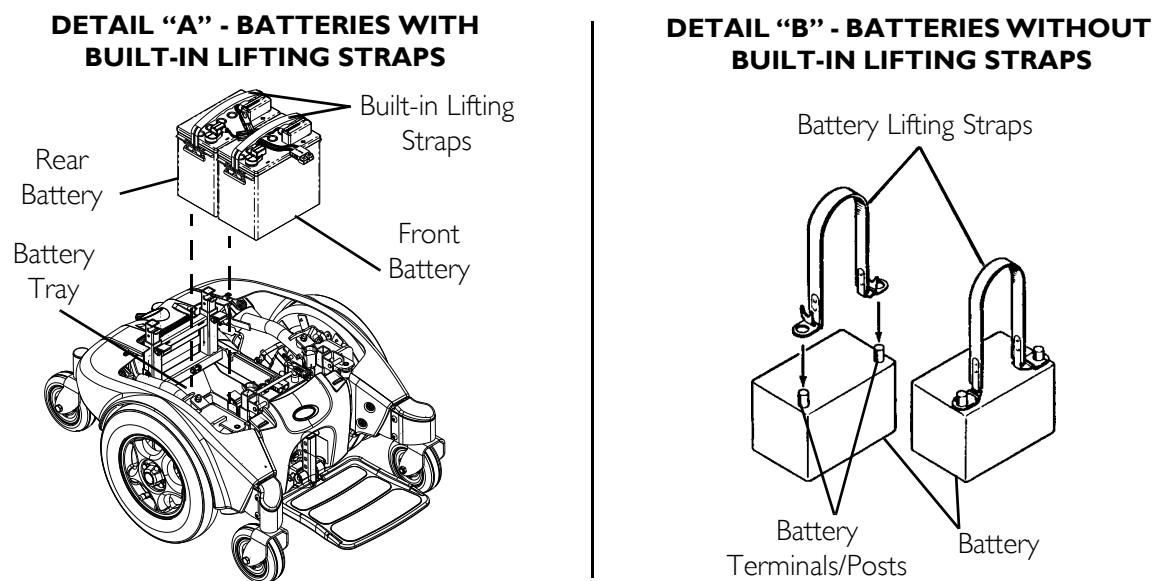
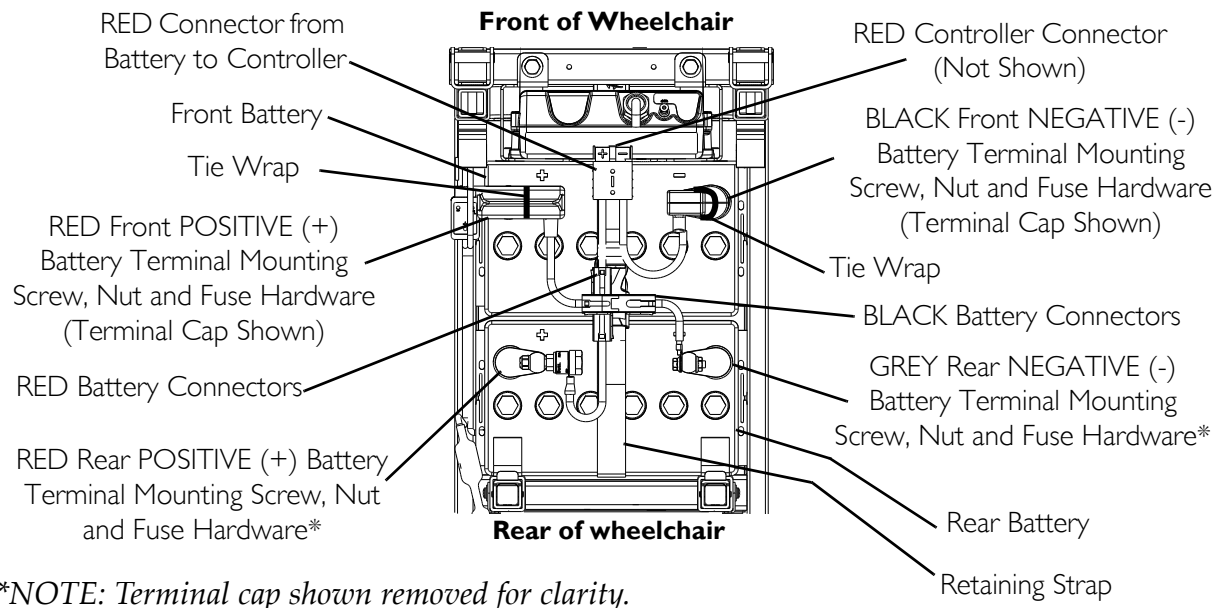

FIGURE 9.1 Batteries with/without Lifting straps
FIGURE 9.2 Installing/Removing the Batteries
NOTE: For this procedure, refer to FIGURE 9.1 on page 58 and FIGURE 9.2 on page 59.
- Batteries With Built In Lifting Strap - Use built in lifting strap to position battery into the battery tray (Detail "A" of FIGURE 9.1).
- Batteries Without Built In Lifting Strap - Use the battery lifting strap to position battery into the battery tray. When battery is in proper position, remove lifting strap (Detail "B" of FIGURE 9.1).
11. Connect the front battery to the controller (RED connector). Refer to FIGURE 9.2.
12. Connect the rear battery to the front battery (RED and BLACK connectors). Refer to FIGURE 9.2.
6. Disconnect the front battery from controller (RED connector). Refer to FIGURE 9.2.
8. Disconnect the rear battery from the front battery (RED and BLACK connectors). Refer to FIGURE 9.2.
- Batteries With Built-in Lifting Strap- Use built in lifting strap to remove the battery from the battery tray (Detail “A” of FIGURE 9.1).
- Batteries Without Built-in Lifting Strap- Use the battery lifting strap to remove the battery from the battery tray (Detail “B” of FIGURE 9.1).